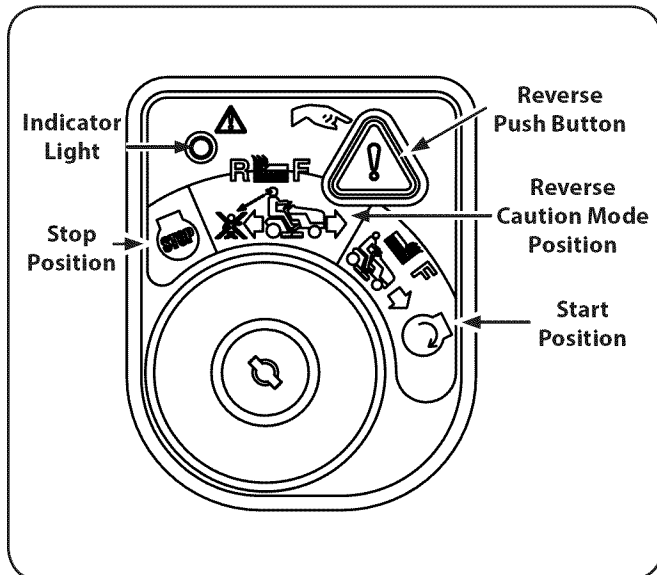

Figure 19
2. Turn the key from the NORMAL MOWING  (Green) position to the REVERSE CAUTION MODE  (Yellow) position of the ignition switch module. See Figure 19.
3. Press the REVERSE PUSH BUTTON  (Orange, Triangular Button) at the top, right corner of the key switch module. The red indicator light at the top, left corner of the ignition switch module will be ON while activated. See Figure 19.